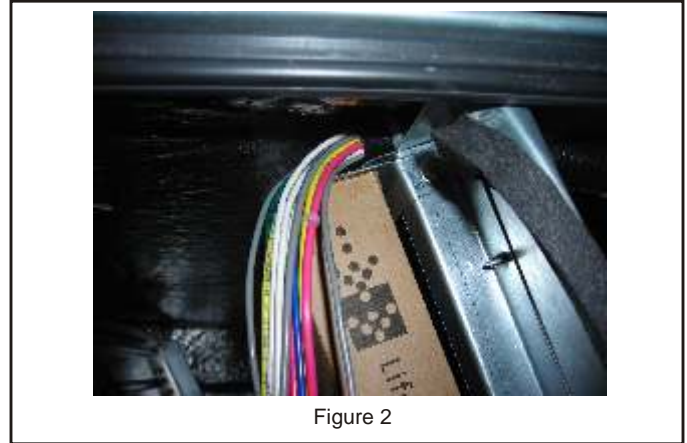

Figure 2
- B. With door panels open on the control side of RTU, route the wire harness bare ends (3 wires Green, Pink and Black) from return section along the RTU wire at the top of unit and through panel above the filter rack. **See Figure 2.**